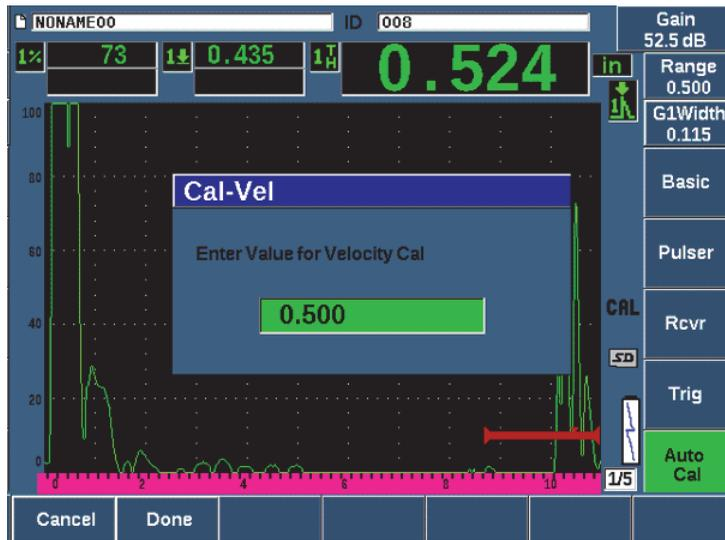

Figure 9-9 Entering the Velocity Cal thickness value
16. In the **Cal-Vel** box, adjust the value to match the known thickness of the gated indication (0.500 in. in this example), and then choose **Done** to complete the calibration process (see Figure 9-9 on page 156).